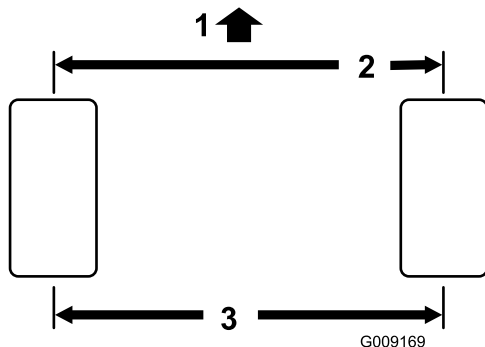

Figure 53
1. Measure the center-to-center distance (at axle height) at the front and rear of the steering tires (Figure 53).